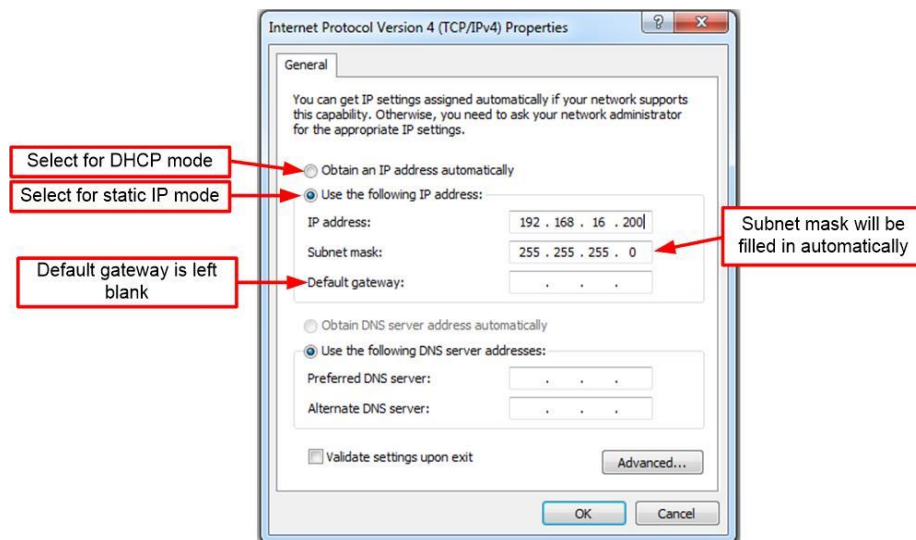

Figure 3-9 Windows Network Connections IPv4 properties page –Static IP
Step 7: To set the unit to a static IP address, select the "Use the following IP address:" option. Then enter the desired IP address in the designated field. A suggestion is to use the IP address 192.168.16.200 as shown below. Once the IP address is filled, the Subnet mask field will automatically populate. See Figure 3-9.